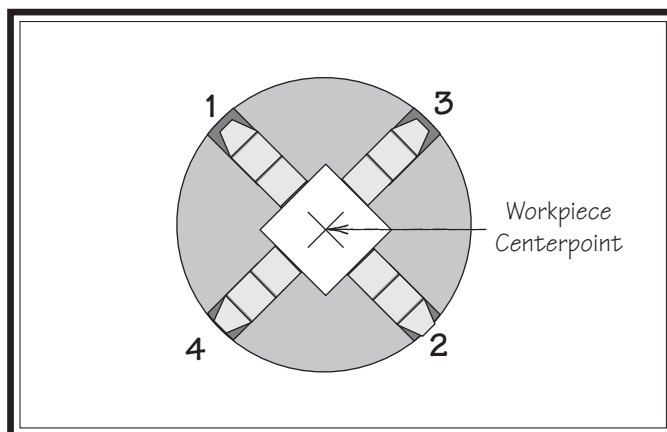

Figure 23. 4-jaw tightening sequence.
5. Tighten each jaw in small increments. After you have adjusted the first jaw, continue tightening the remaining jaws in an opposing sequence, as shown by the sequential order in **Figure 23**.